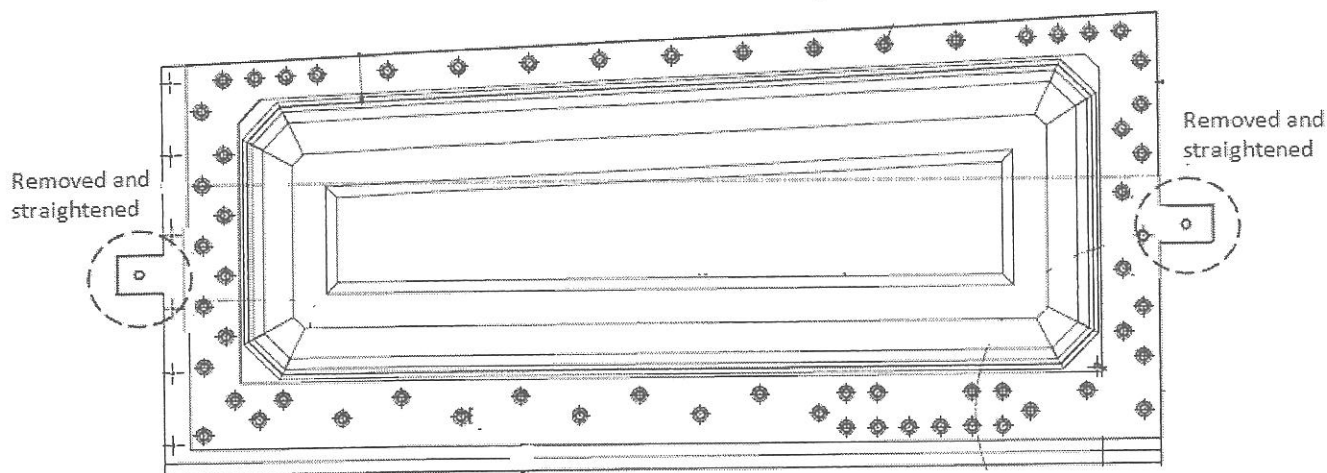

Figure 14 : Lugs to be removed
2. Use a 320-grade 'dry' abrasive paper to deburr panel edges & to meet EOP requirement. Refer **Figure 14 (Page 34)** for details.